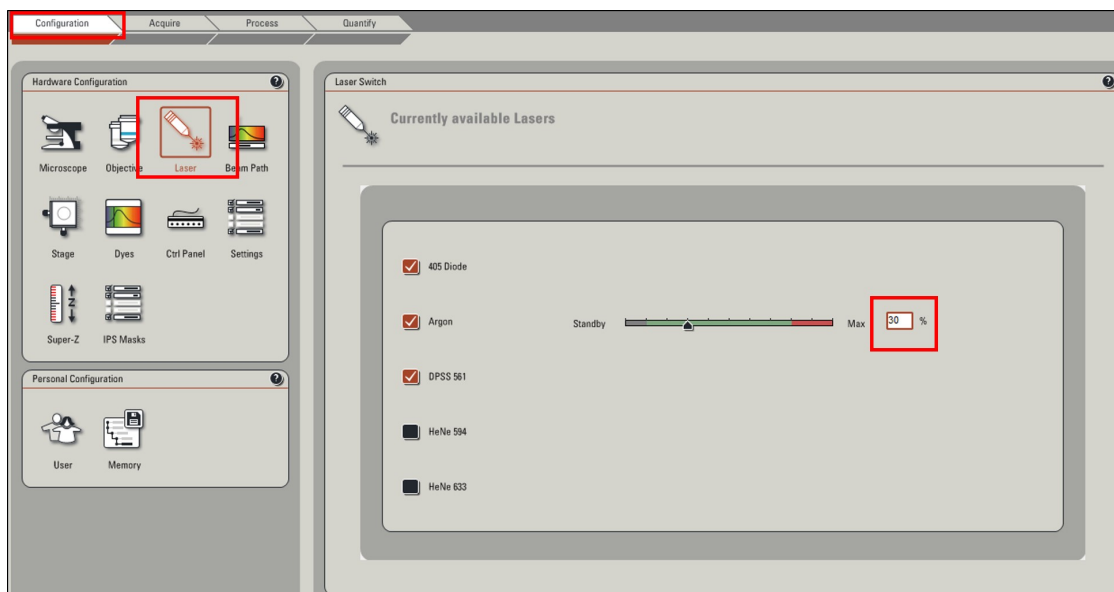

Figure 4: Laser settings under the configuration tab.
1. Go into Configuration tab and select the **Laser** icon. See Figure: 4